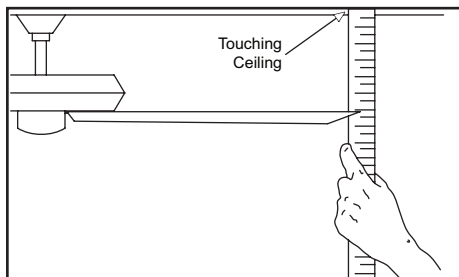

Figure 18
2. Most fan wobble problems are caused when blade levels are unequal. Check this level by selecting a point on the ceiling above the tip of one of the blades. Measure from a point on the center of each blade to the point on the ceiling. Measure this distance as shown in Figure 18. Rotate the fan until the next blade is positioned for measurement. Repeat for each blade. Measurements deviation should be within 1/8". Run the fan for 10 minutes.